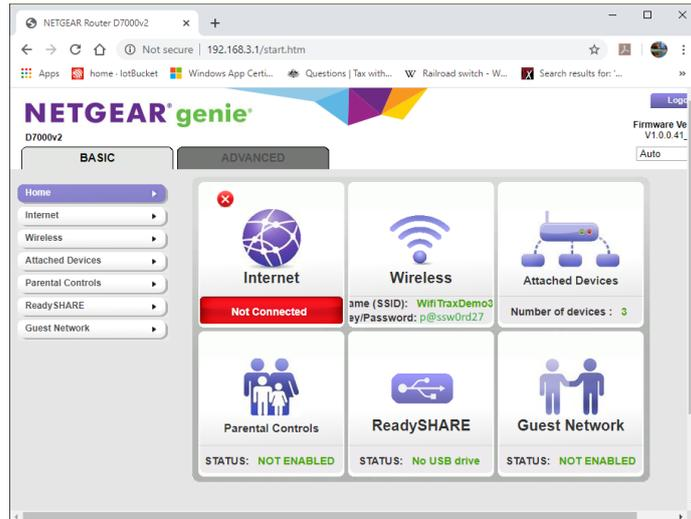

Figure 20 A typical router admin page
- d. Once you have given the credentials, you will see the Admin page. A typical one is shown in Figure 20. Find the "Attached Devices" option and click on it.